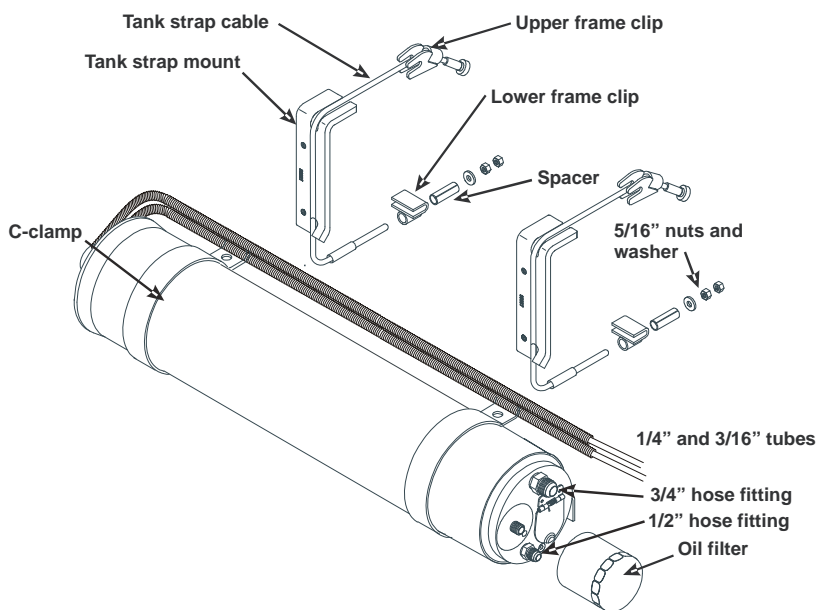

Figure 3.1
The tank (Figure 3.1) will mount to the passenger side frame rail behind the front cab mount. The recommended location is about 1 inch back from the end of the cab floor stiffener, a rib with an attached ground wire.
- Fit the cables onto the tank strap mounts with the cables in the grooves of the mounts and the clips above the right-angle end of the tank strap (Figure 3.1).